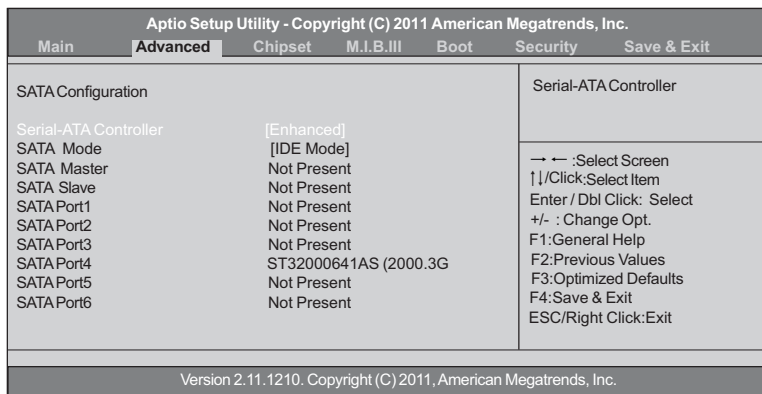

Figure 1.2 SATA Configuration Screen
- 3 Use the arrow keys to select the SATA Configuration (see Figure 1.2) and globally set SATA Mode to RAID.